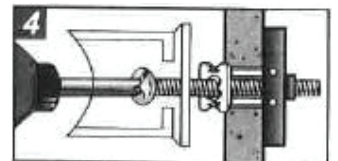

Figure 4.3.4
4.3.4 Place spacer over flange. Insert bolt and tighten until snug against cab wall and then stop. (Use only 1/4" -20 bolt (be conscience of cab wall to shaft wall clearances for any excess bolt length.) Figure 4.3.4